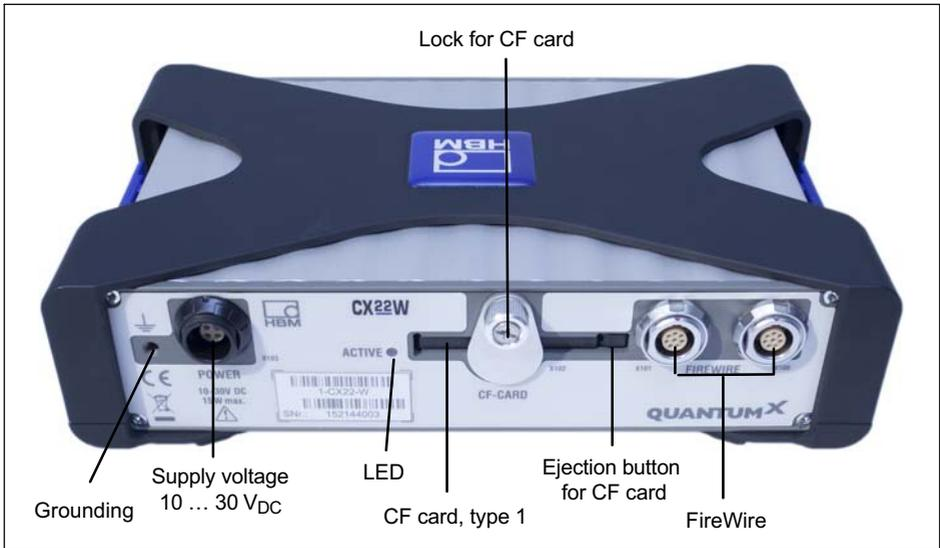

Fig. 4.2 CX22-W connections on the back
1. Undo the retaining screw for the CF card (Fig. 4.2 on Page 16). The screw must not be removed, it should just be loosened.
3. Use a blunt object, e.g. a ball-point pen, to press the ejection button on the right in the CF card slot (Fig. 4.2).
1. If this has not already been done, undo the retaining screw for the CF card (Fig. 4.2 on Page 16) and swivel the cover plate upwards. The screw must not be removed, it should just be loosened.